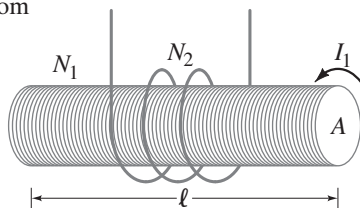

FIGURE 21–63
26. (I) A transformer is designed to change 117 V into 13,500 V, and there are 148 turns in the primary coil. How many turns are in the secondary coil?
27. (I) A transformer has 360 turns in the primary coil and 120 in the secondary coil. What kind of transformer is this, and by what factor does it change the voltage? By what factor does it change the current?
28. (I) A step-up transformer increases 25 V to 120 V. What is the current in the secondary coil as compared to the primary coil?
29. (I) Neon signs require 12 kV for their operation. To operate from a 240-V line, what must be the ratio of secondary to primary turns of the transformer? What would the voltage output be if the transformer were connected in reverse?
30. (II) The output voltage of a 95-W transformer is 12 V, and the input current is 25 A. (a) Is this a step-up or a step-down transformer? (b) By what factor is the voltage multiplied?
31. (II) A transformer has 330 primary turns and 1240 secondary turns. The input voltage is 120 V and the output current is 15.0 A. What are the output voltage and input current?
32. (II) If 35 MW of power at 45 kV (rms) arrives at a town from a generator via 4.6- Ω transmission lines, calculate (a) the emf at the generator end of the lines, and (b) the fraction of the power generated that is wasted in the lines.
33. (II) For the transmission of electric power from power plant to home, as depicted in Fig. 21–25, where the electric power sent by the plant is 100 kW, about how far away could the house be from the power plant before power loss is 50%? Assume the wires have a resistance per unit length of $5 \times 10^{-5}\ \Omega/\text{m}$.
34. (II) For the electric power transmission system shown in Fig. 21–25, what is the ratio N_S/N_P for (a) the step-up transformer, (b) the step-down transformer next to the home?
- *37. (I) If the current in a 160-mH coil changes steadily from 25.0 A to 10.0 A in 350 ms, what is the magnitude of the induced emf?
- *38. (I) What is the inductance of a coil if the coil produces an emf of 2.50 V when the current in it changes from $-28.0\ \text{mA}$ to $+31.0\ \text{mA}$ in 14.0 ms?
- *39. (I) Determine the inductance L of a 0.60-m-long air-filled solenoid 2.9 cm in diameter containing 8500 loops.
- *40. (I) How many turns of wire would be required to make a 130-mH inductor out of a 30.0-cm-long air-filled solenoid with a diameter of 5.8 cm?
- *41. (II) An air-filled cylindrical inductor has 2600 turns, and it is 2.5 cm in diameter and 28.2 cm long. (a) What is its inductance? (b) How many turns would you need to generate the same inductance if the core were iron-filled instead? Assume the magnetic permeability of iron is about 1200 times that of free space.
- *42. (II) A coil has 2.25- Ω resistance and 112-mH inductance. If the current is 3.00 A and is increasing at a rate of 3.80 A/s, what is the potential difference across the coil at this moment?
- *43.** (III) A long thin solenoid of length ℓ and cross-sectional area A contains N_1 closely packed turns of wire. Wrapped tightly around it is an insulated coil of N_2 turns, Fig. 21–63. Assume all the flux from coil 1 (the solenoid) passes through coil 2, and calculate the mutual inductance.
- *44.** (I) The magnetic field inside an air-filled solenoid 36 cm long and 2.0 cm in diameter is 0.72 T. Approximately how much energy is stored in this field?
- *45.** (II) At $t = 0$, the current through a 45.0-mH inductor is 50.0 mA and is increasing at the rate of 115 mA/s. What is the initial energy stored in the inductor, and how long does it take for the energy to increase by a factor of 5.0 from the initial value?
- *46.** (II) Assuming the Earth's magnetic field averages about 0.50×10^{-4} T near Earth's surface, estimate the total energy stored in this field in the first 10 km above Earth's surface.
- *47.** (II) It takes 2.56 ms for the current in an LR circuit to increase from zero to 0.75 its maximum value. Determine (a) the time constant of the circuit, (b) the resistance of the circuit if $L = 31.0$ mH.
- *48.** (II) How many time constants does it take for the potential difference across the resistor in an LR circuit like that in Fig. 21–37 to drop to 2.5% of its original value, after the switch is moved to the upper position, removing V_0 from the circuit?
- *49.** (III) Determine $\Delta I / \Delta t$ at $t = 0$ (when the battery is connected) for the LR circuit of Fig. 21–37 and show that if I continued to increase at this rate, it would reach its maximum value in one time constant.